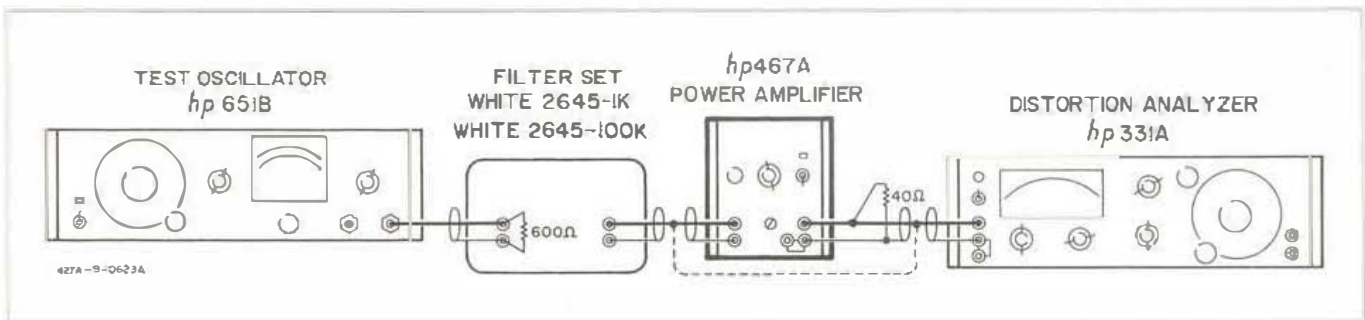

Figure 5-3A. Distortion Check
- a. Figure 5-3A describes the test arrangement recommended. A Distortion Analyzer (-hp- Model 331A), an Oscillator (-hp- Model 651B), a 1 KHz Bandpass Filter (White Instrument
- Connect the 1 KHz filter input to the output of the 651B, Test Oscillator, using a 600 ohm load. Connect the 331A Distortion Analyzer directly to the Filter output as shown in Figure 5-3A Alternate connection.
- Disconnect the filter output from the 331A. Connect the filter output to the 467A input. Connect the 467A output to the 331A input across a 40 ohm load, as shown in Figure 5-3A. Set the 467A to X10 position.